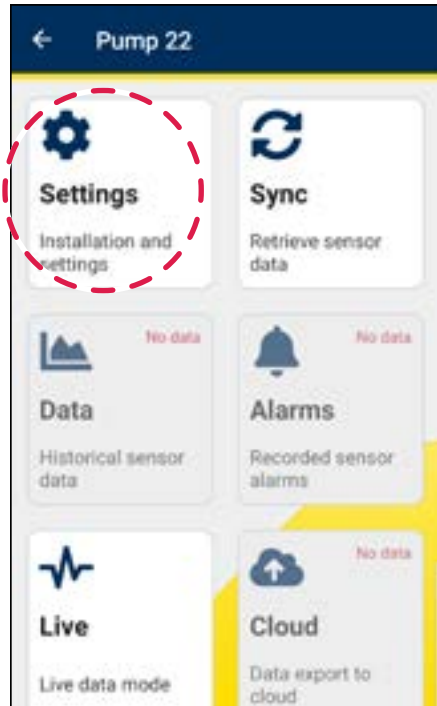

Figure 9
1. Select **Settings** (see figure 9).